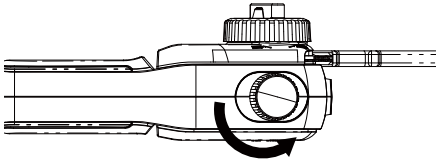

Fig. 14
1. Set the pole saw on any suitable surface with the oil tank cap facing upward. Clean the area around the oil tank cap with cloth and unscrew the cap by turning it counter-clockwise. (Fig. 14)